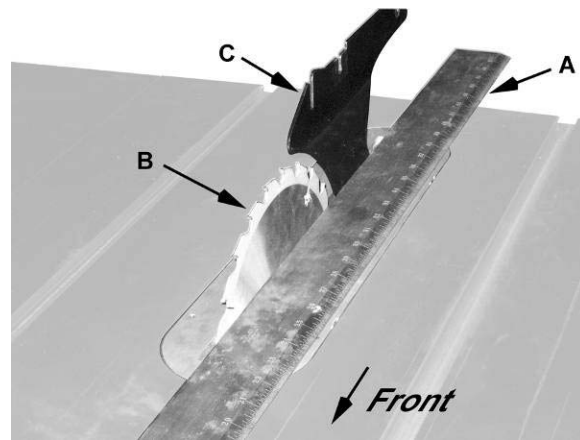

Figure 16
2. Place a *straightedge* (A, Figure 16) on the table so it rests against the *blade* (B, Fig 16) and *riving knife* (C, Figure 16). Rotate the blade so the top of the blade tooth touches the straightedge.